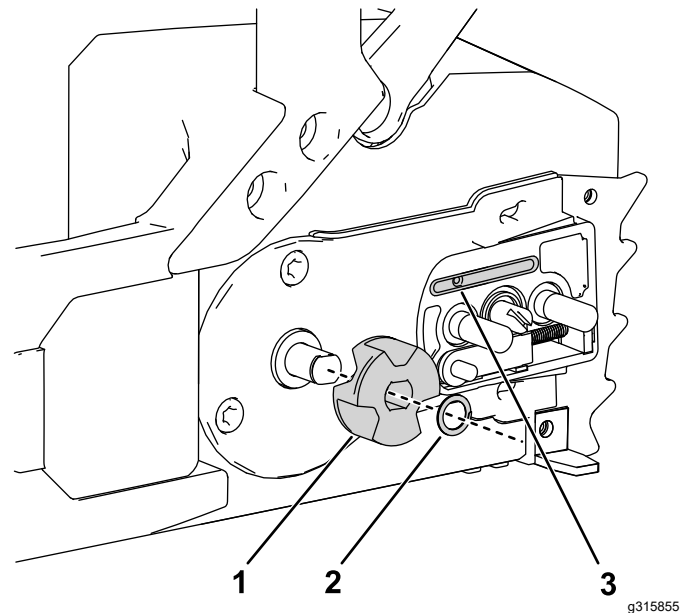

Figure 31
5. Remove the clip and drive sprocket from the chain saw (Figure 31).
9. Check the oil outlet (Figure 31) for debris and clean the area if necessary.